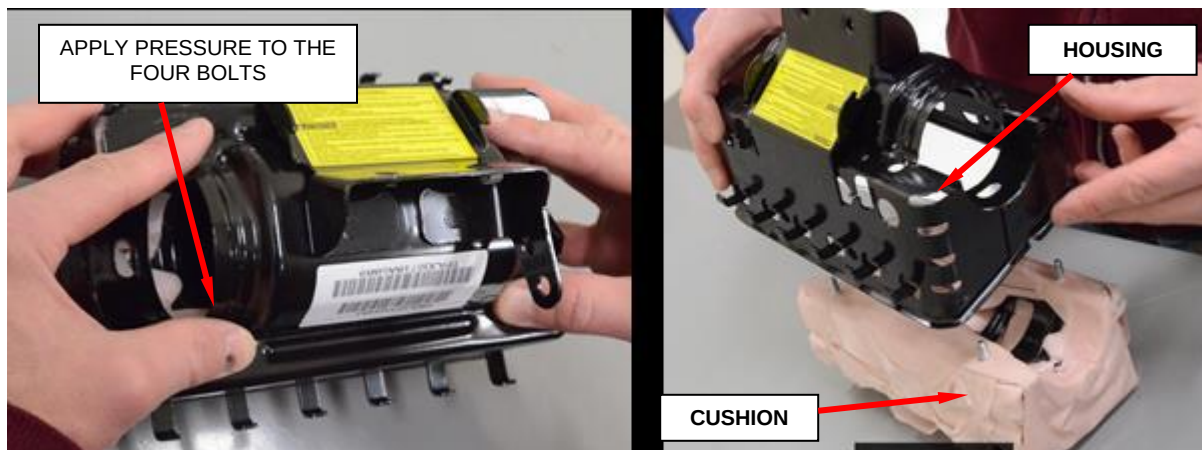

Figure 154 – Remove Airbag Cushion from Housing
- h. Remove airbag cushion from housing by applying pressure to the bolts, set cushion aside (Figure 154).